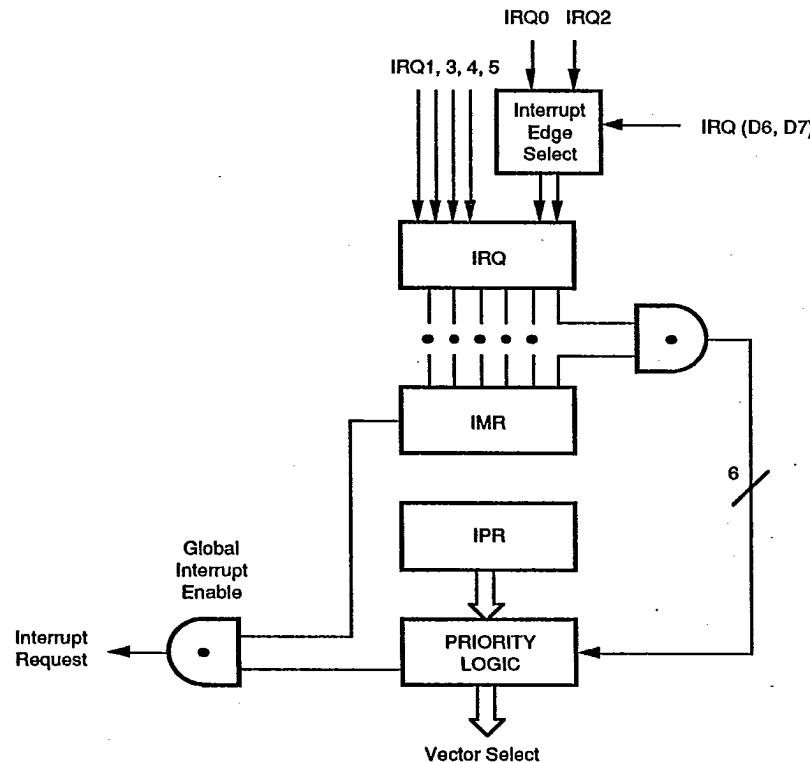

Figure 10. Interrupt Block Diagram
**Interrupts.** The Z86C09/Z86C19 has six different interrupts from five different sources. The interrupts are maskable and prioritized (Figure 10). The five sources are divided as follows; three sources are claimed by Port 3 lines P31-P33, and two sources in counter/timers. The Interrupt Mask Register globally or individually enables or disables the six interrupt requests (Table 2).